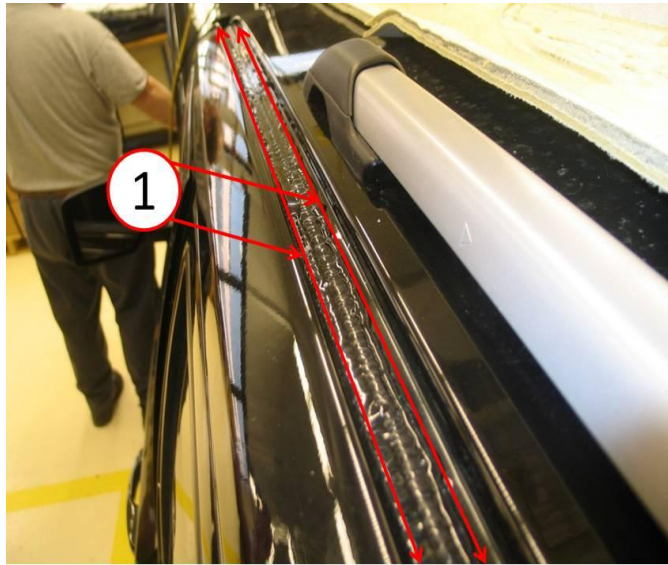

Fig. 9 Roof Ditch
3. Apply a clear paintable seam sealer such as Kent Hi-Tech Seam Sealer P10200 or equivalent along both sides of the roof ditch seam as shown in (Fig. 9).